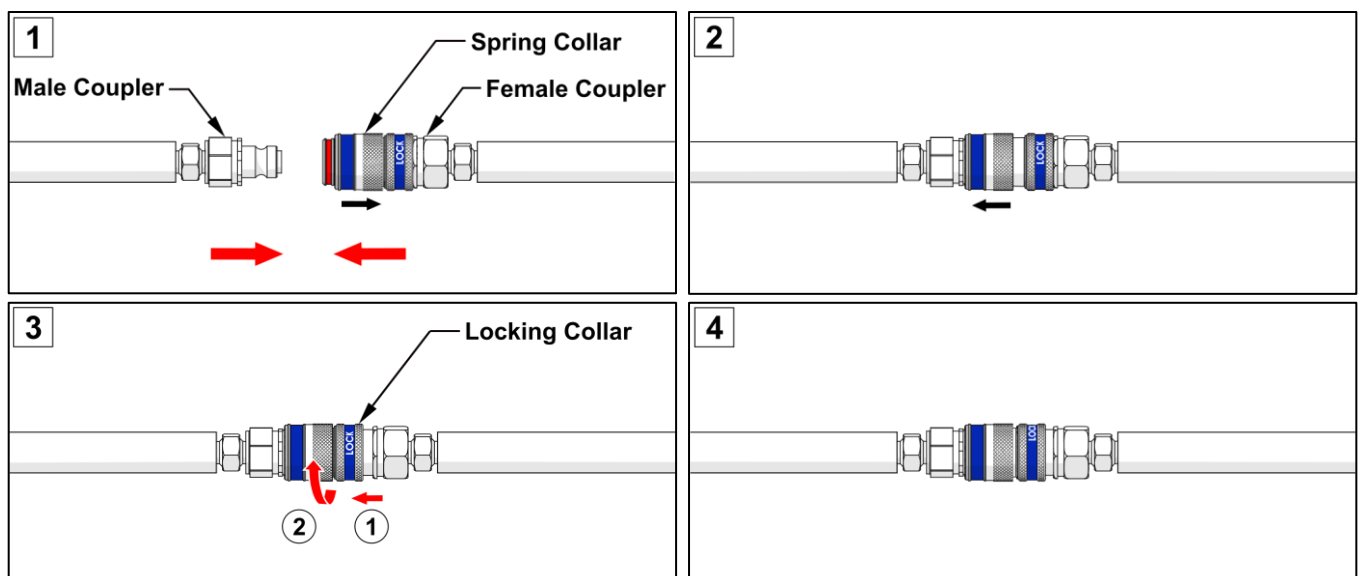

Figure 5.2 Hydraulic Connections
Connections between couplers (see figure 5.2) are made by [1] pulling back the spring collar on the female coupler. [2] Inserting the male coupler into the female coupler and then releasing the female spring collar. [3] Lock the connection by (1) pushing forward on the locking-collar and then (2) twisting it clockwise and releasing. A gentle tug on the hose should be enough to make sure the hose is correctly connected.